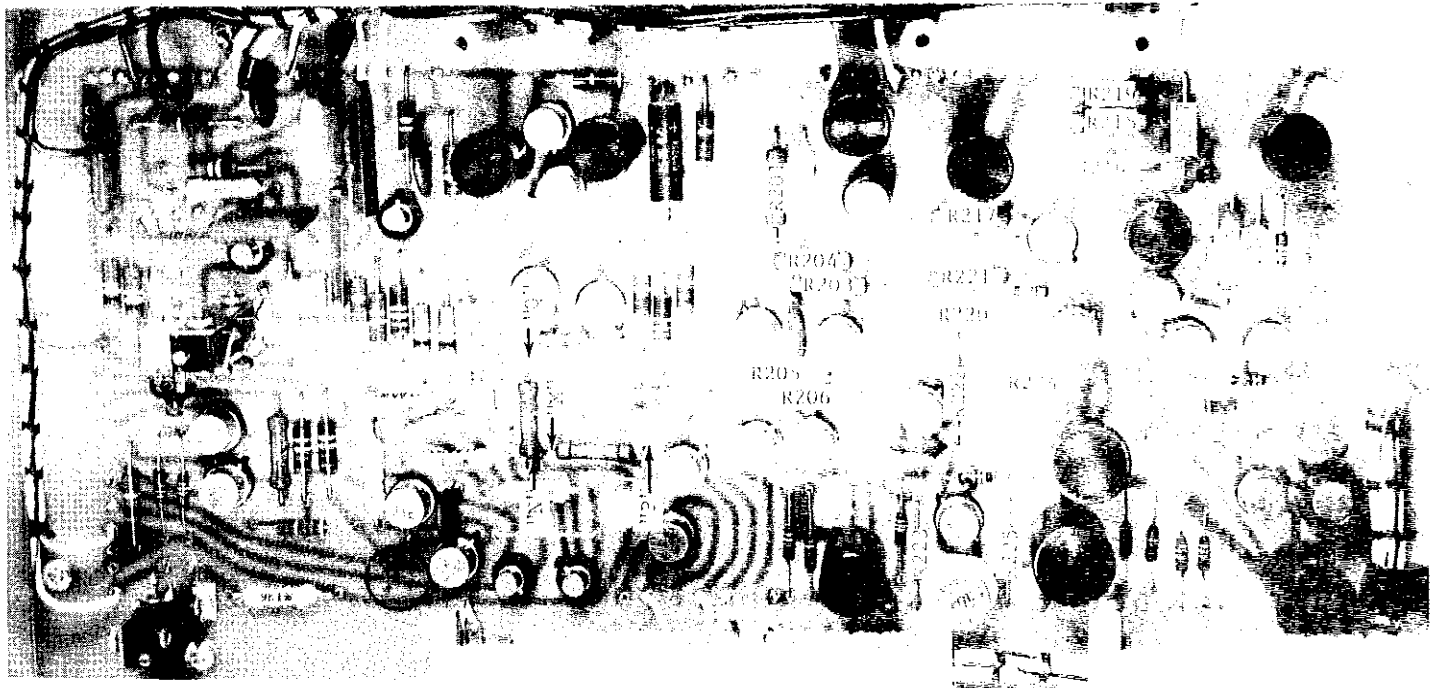

FIGURE 34. Resistor and Test Point Locations on Printed Circuit 76. Figure 33 contains callouts for the other resistors
4. Connect the oscilloscope to the Model 147 OUTPUT. Set the oscilloscope amplifier to dc coupling, 0.2 volt/cm, time base to 0.1 or 0.2 second/cm. Set the Model 147 to the 0.1-microvolt range. Turn the Model 260 POLARITY Switch to OFF. Set the ZERO SUPPRESS Controls to compensate for residual thermal emf's. Turn the Model 260 POLARITY Switch to + or -; observe the wave form on the oscilloscope. The response time (from 10% to 90% of final value) should be between 0.9 and 1.0 second. Cautiously adjust potentiometer R109 (Figure 34) for this value.
5. After calibrating the amplifier, adjust the input voltage (or zero suppression) for full-scale outputs as shown on the Model 660A, on any range 1 microvolt and above. Adjust potentiometer R136 (Figure 34) for exactly full-scale meter deflection.
Low gain in dc amplifier.	Unsolder and lift one end of R123 and R124. See points M and N, Figure 34. Apply 10 to 100 mv to base of Q11 to zero meter. Change input by 1 millivolt; output should shift 0.3 to 3.0 volts. If not, or if more than 100 mv is required to zero, check transistors, beginning with Q11 and Q12. Q11 and Q12 are matched for offset. Replace only with parts purchased from Keithley.